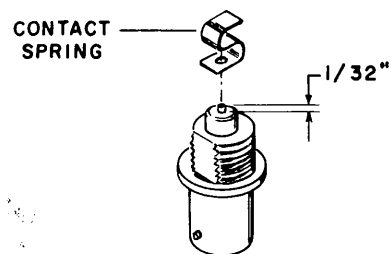

Figure 8. Cutting Center Conductor Lead to Accommodate Contact Spring
47. Parts mentioned in the following procedure are identified in Figures 8 and 9. Tools required are listed in Paragraph 42.